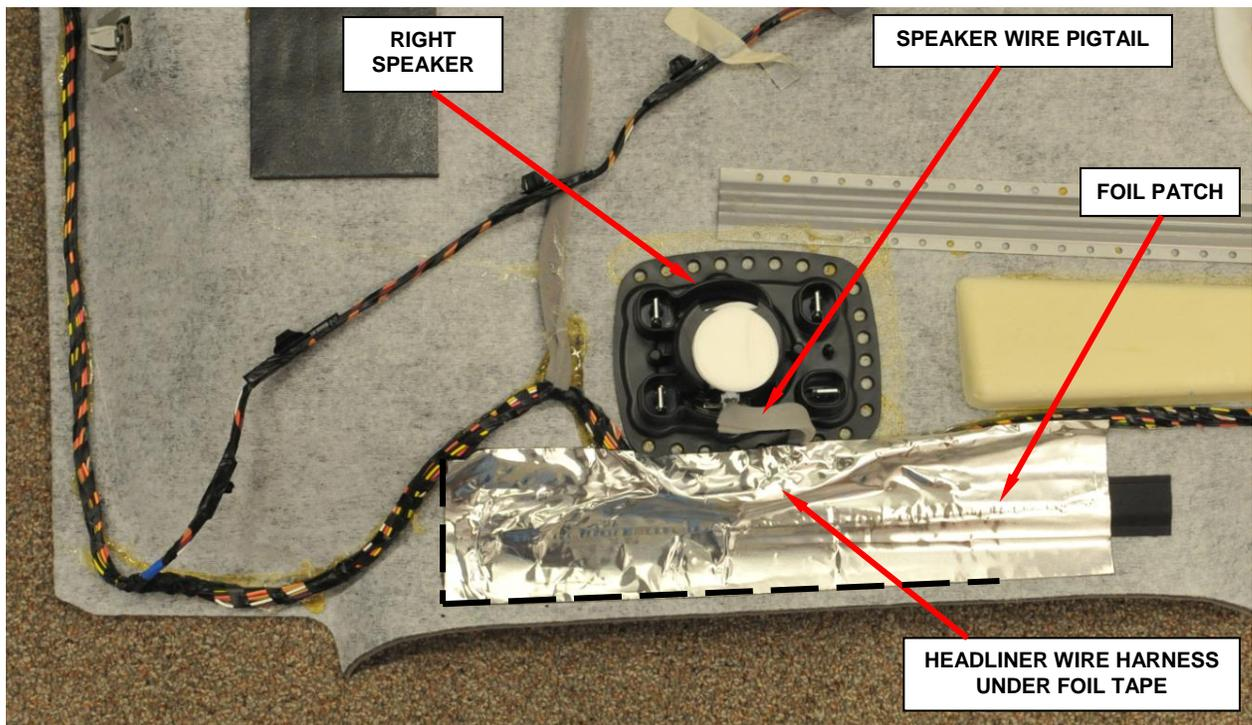

Figure 34 – Foil Patch Installed (Right Side Shown)
4. Install the foil patch to the headliner using the markings as a guideline and smooth the foil patch edges (Figure 34).
NOTE: Assure the speaker wire pigtail is not positioned under the foil patch. See Figure 34 for proper speaker wire orientation.